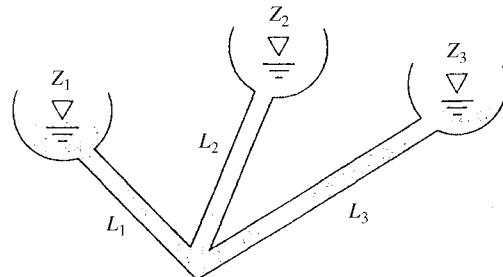

Fig. P6.121
**6.121** Consider the three-reservoir system of Fig. P6.121 with the following data: